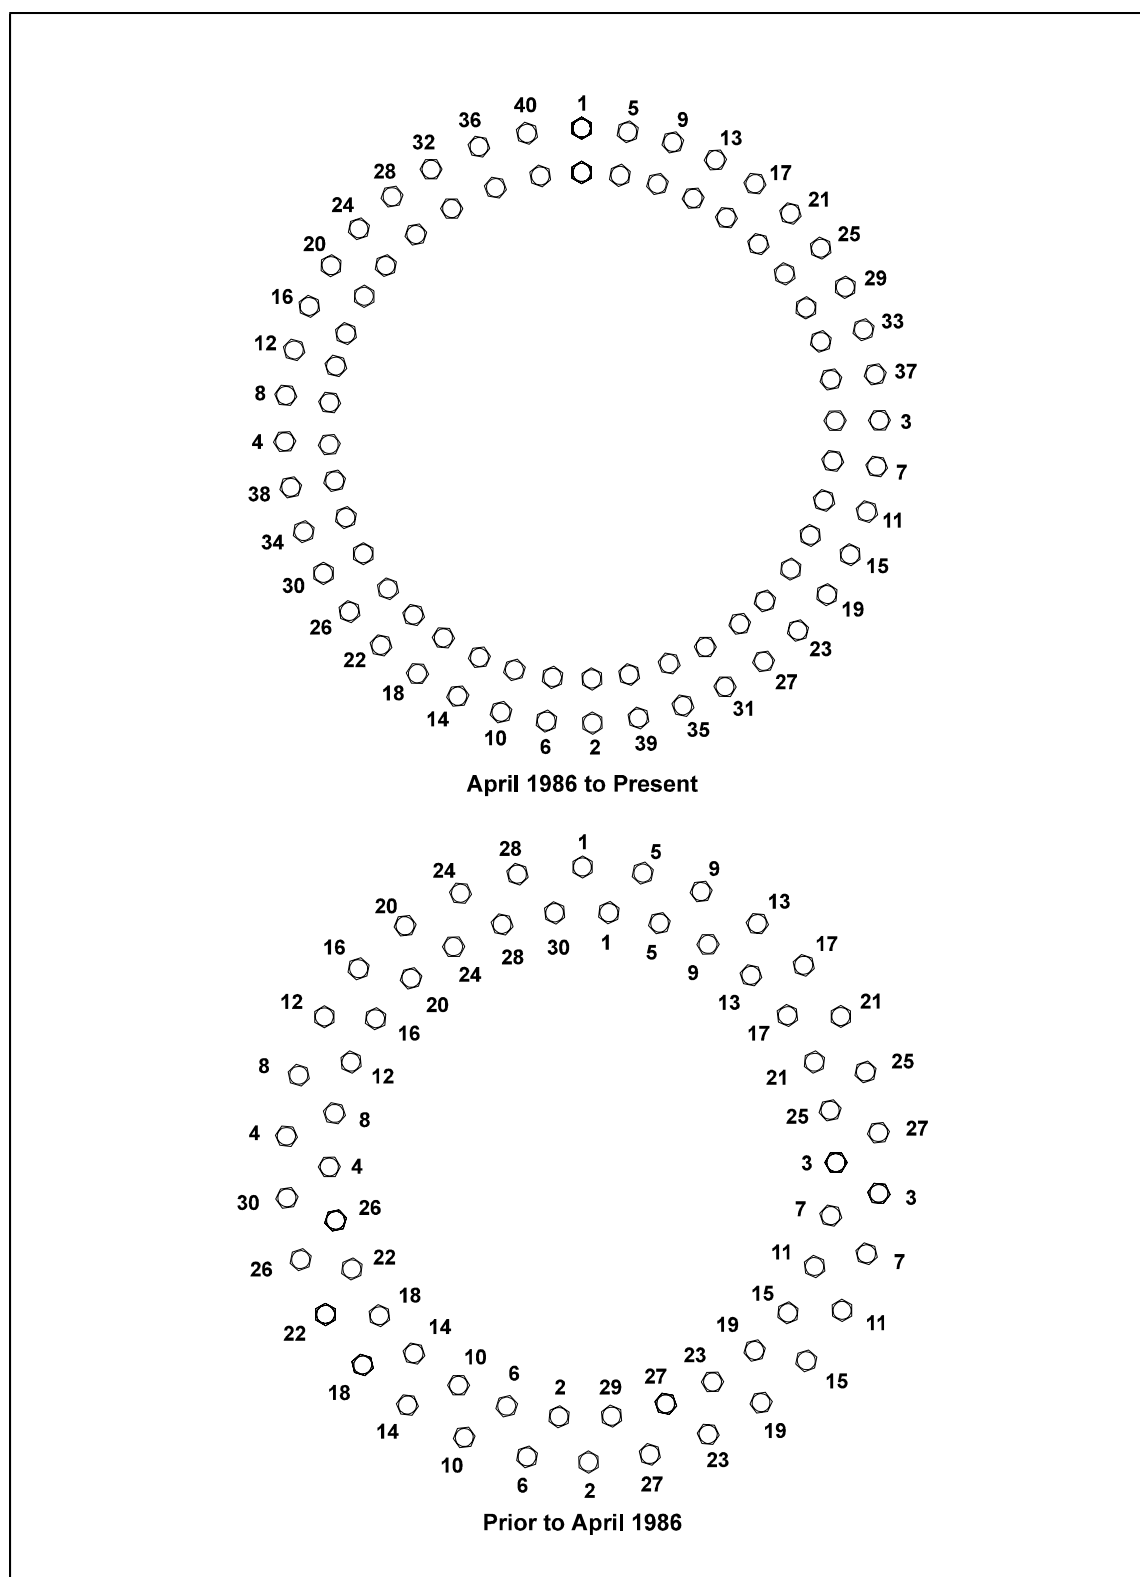

Figure 3-15. Swing Bearing Torquing Sequence
16. Following the Torque Sequence diagram shown in Figure 3-15., and torque the bolts. Refer to Swing Bearing Torque Values in this section.
21. Following the Torque Sequence diagram shown in Figure 3-15., torque the bolts to the values listed under Swing Bearing Torque Values.